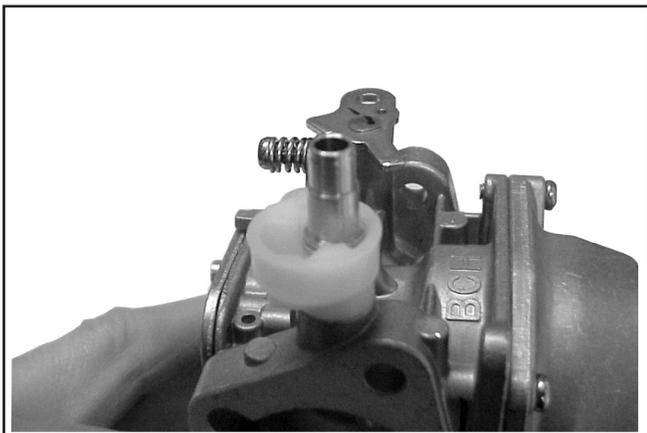

Figure 3.
- Turn the old bushing upside down and use it as a driver to carefully press or tap the new bushing into the carburetor body until it bottoms. Check that the choke lever pivots freely without restriction or binding. See Figure 3.